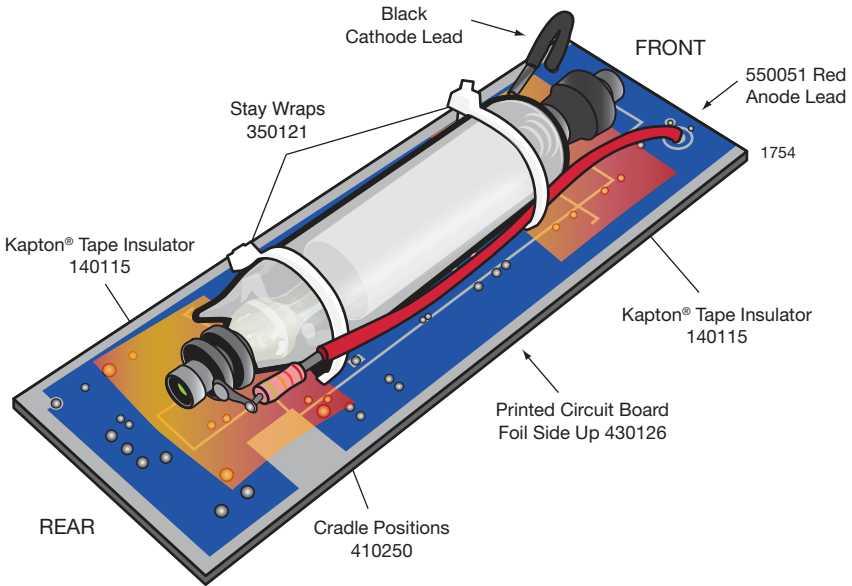

Figure 3. Laser tube mounting diagram.
(Refer to Figure 3.)
Laser tube LT-1 and resistor R1 are the only components mounted on the foil side of the circuit board. Follow the instructions below and refer to Figure 3.
4. With the printed circuit board foil side up, insert the pointed end of a plastic stay wrap through one of the large holes between diodes D5 and D6. The corrugated side of the stay wrap must face the middle of the PC board and the smooth side must be closest to the edge of the board. Now thread it back through the other hole as shown in Figure 3.
6. Carefully place the laser tube on the circuit board in the position shown in Figure 3. The cathode end of the tube has the aluminum shield inside the glass envelope.
7. Pass the pointed end of the anode end stay wrap through its end lock as shown in Figure 3. Draw the stay wrap tightly against the laser tube and snip off the wrap's protruding end.
8. Solder one end of the black 2 inch cathode wire to the closed end of the microjack. Solder the other end of the wire to the hole in the ground plane as shown in Figure 3. Push the microjack onto the wire on the cathode end of the laser tube.
10. Pass the pointed end of the cathode end stay wrap through its end lock going over the anode wire as shown in figure 3. Draw the stay wrap tightly against the tube and snip off the wrap's protruding end.